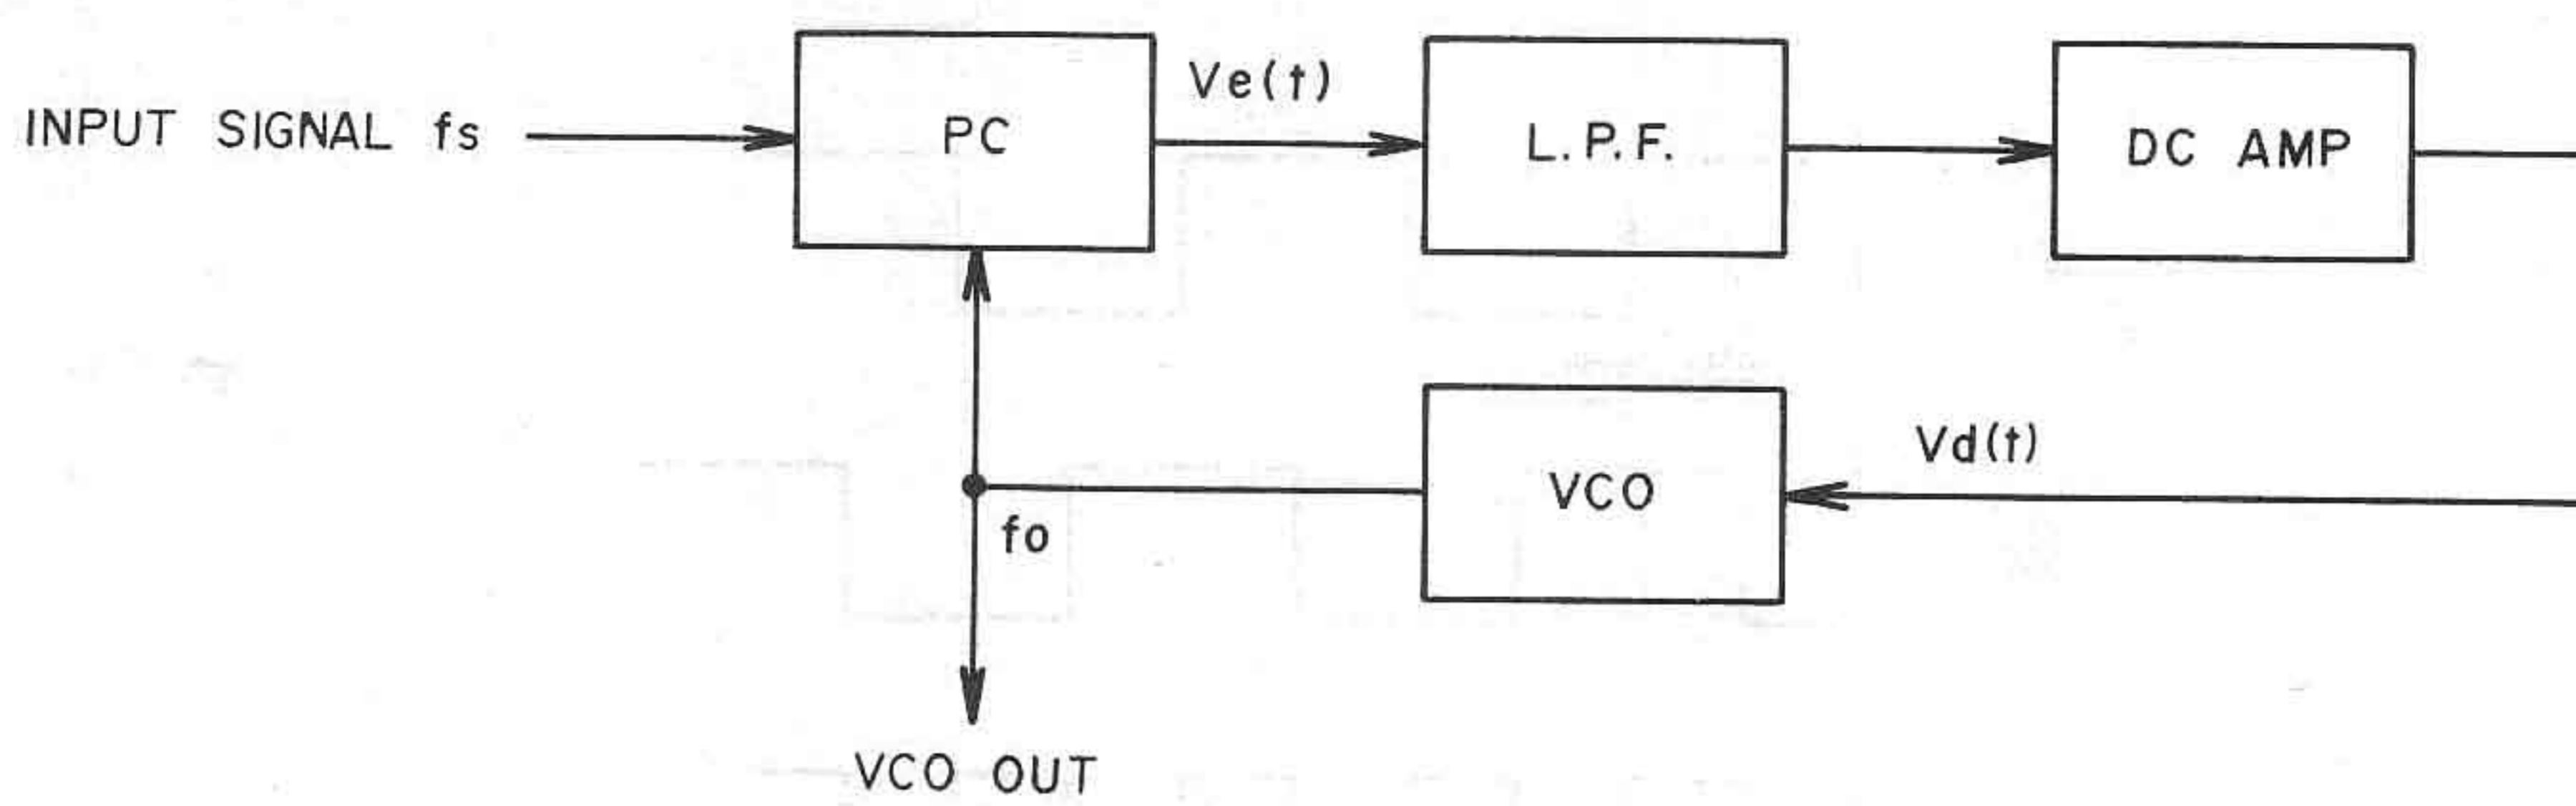

Fig. 13 PLL Circuit
PLL circuit is a king of feedback circuit and is comprised of a Phase Comparator (PC), a Low Pass Filter (LPF), a Direct Current Amplifier (DC Amp.), and a Voltage Control Oscillator (VCO) as shown in Fig. 13. The PC compares input signal F_s and VCO oscillator output and generates the difference in signal voltage $V_e(t)$ proportionately to this phase deviation. This $V_e(t)$ passes LPF and the DC Amp. and becomes control voltage. This control voltage supplied to VCO and VCO oscillation frequency is DC controlled. When there is no input signal F_s , because there is also no $V_e(t)$, control voltage $V_d(t)$ becomes zero, and VCO maintains a *Free-running oscillation frequency. When a signal enters, VCO oscillation frequency F_o is controlled to narrow the difference between F_s by means of feedback as described above, and the PLL circuit assumes a synchronous condition. This is referred to as input signal lock. (In case the difference between F_o and F_s is too large, the differential signal frequency becomes high and is reduced at the LPF. However, because the VCO control voltage does not change, PLL will not stay within the *lock range).